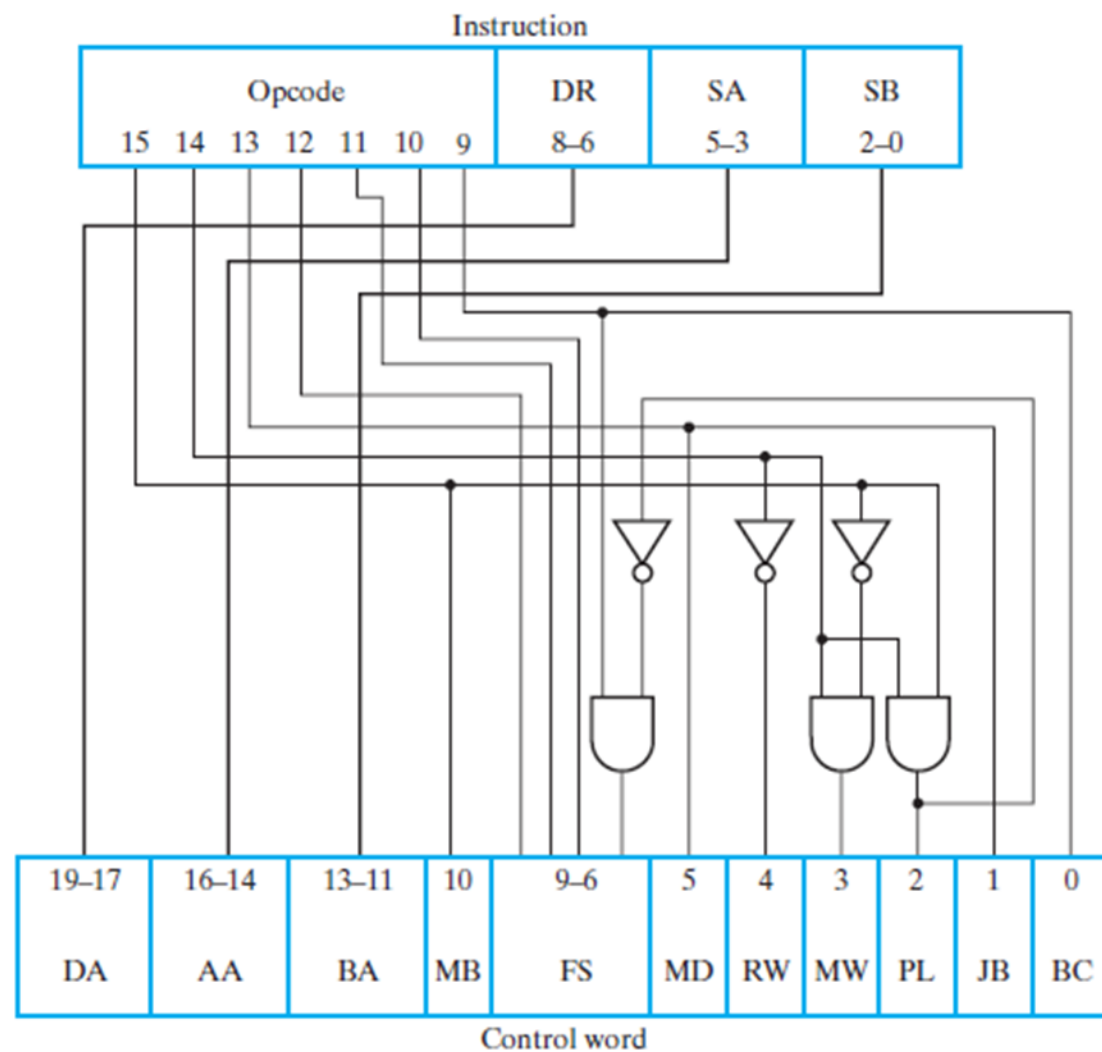

FIGURE 8-16
- We add an enable on bit 9 that forces FS0 to zero whenever PL = 1, as shown in Figure 8-16, to avoid contradiction in values between bit 9 and FS.